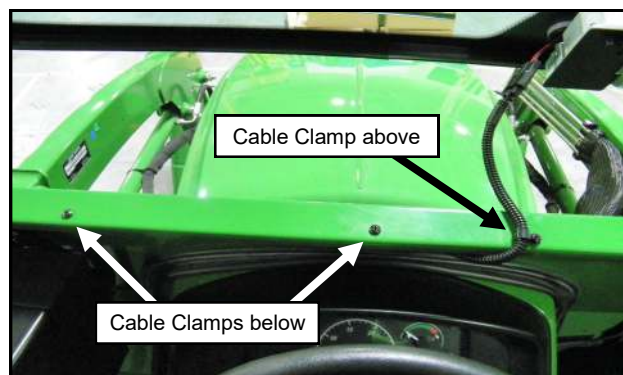

Fig. 16.4 (Attach Wire Harness to Cowl)
16.4 Open the windshield and secure the wiring harness underneath the cowl using cable clamps. See figure 16.4.